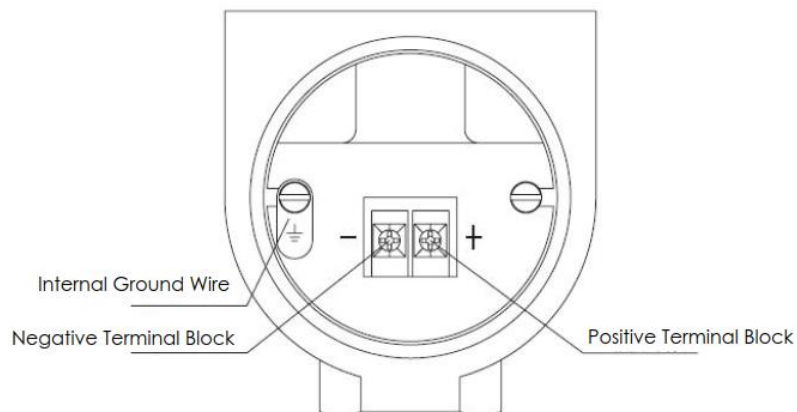

Figure 6 Wiring Diagram
6.3.2 UQZ magnetic float level transmitter according to the following diagram to complete the wiring - Figure 6